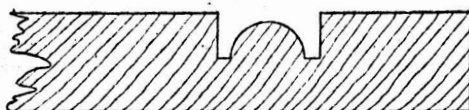
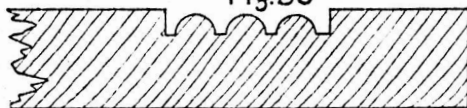

Fig. 30
Fig. 31
*Fig. 30* shows the section of a center bead. It can be worked at any required distance up to five inches from the edge of the board by using the longer set of arms regularly furnished with the Plane. Extra long arms can be furnished on special order which will permit of a bead being worked eight inches from the edge of the board.
*Fig. 31* is a section of Reeds worked in the same way as the bead in *Fig. 30* by using the reeding cutters for small sizes, and by working a series of centre beads for larger sizes. When working center beads, the bead which will be farthest from the edge against which the Fence bears should be worked first. If this is not done there will be difficulty in working the succeeding beads so that they will properly connect with those first made.